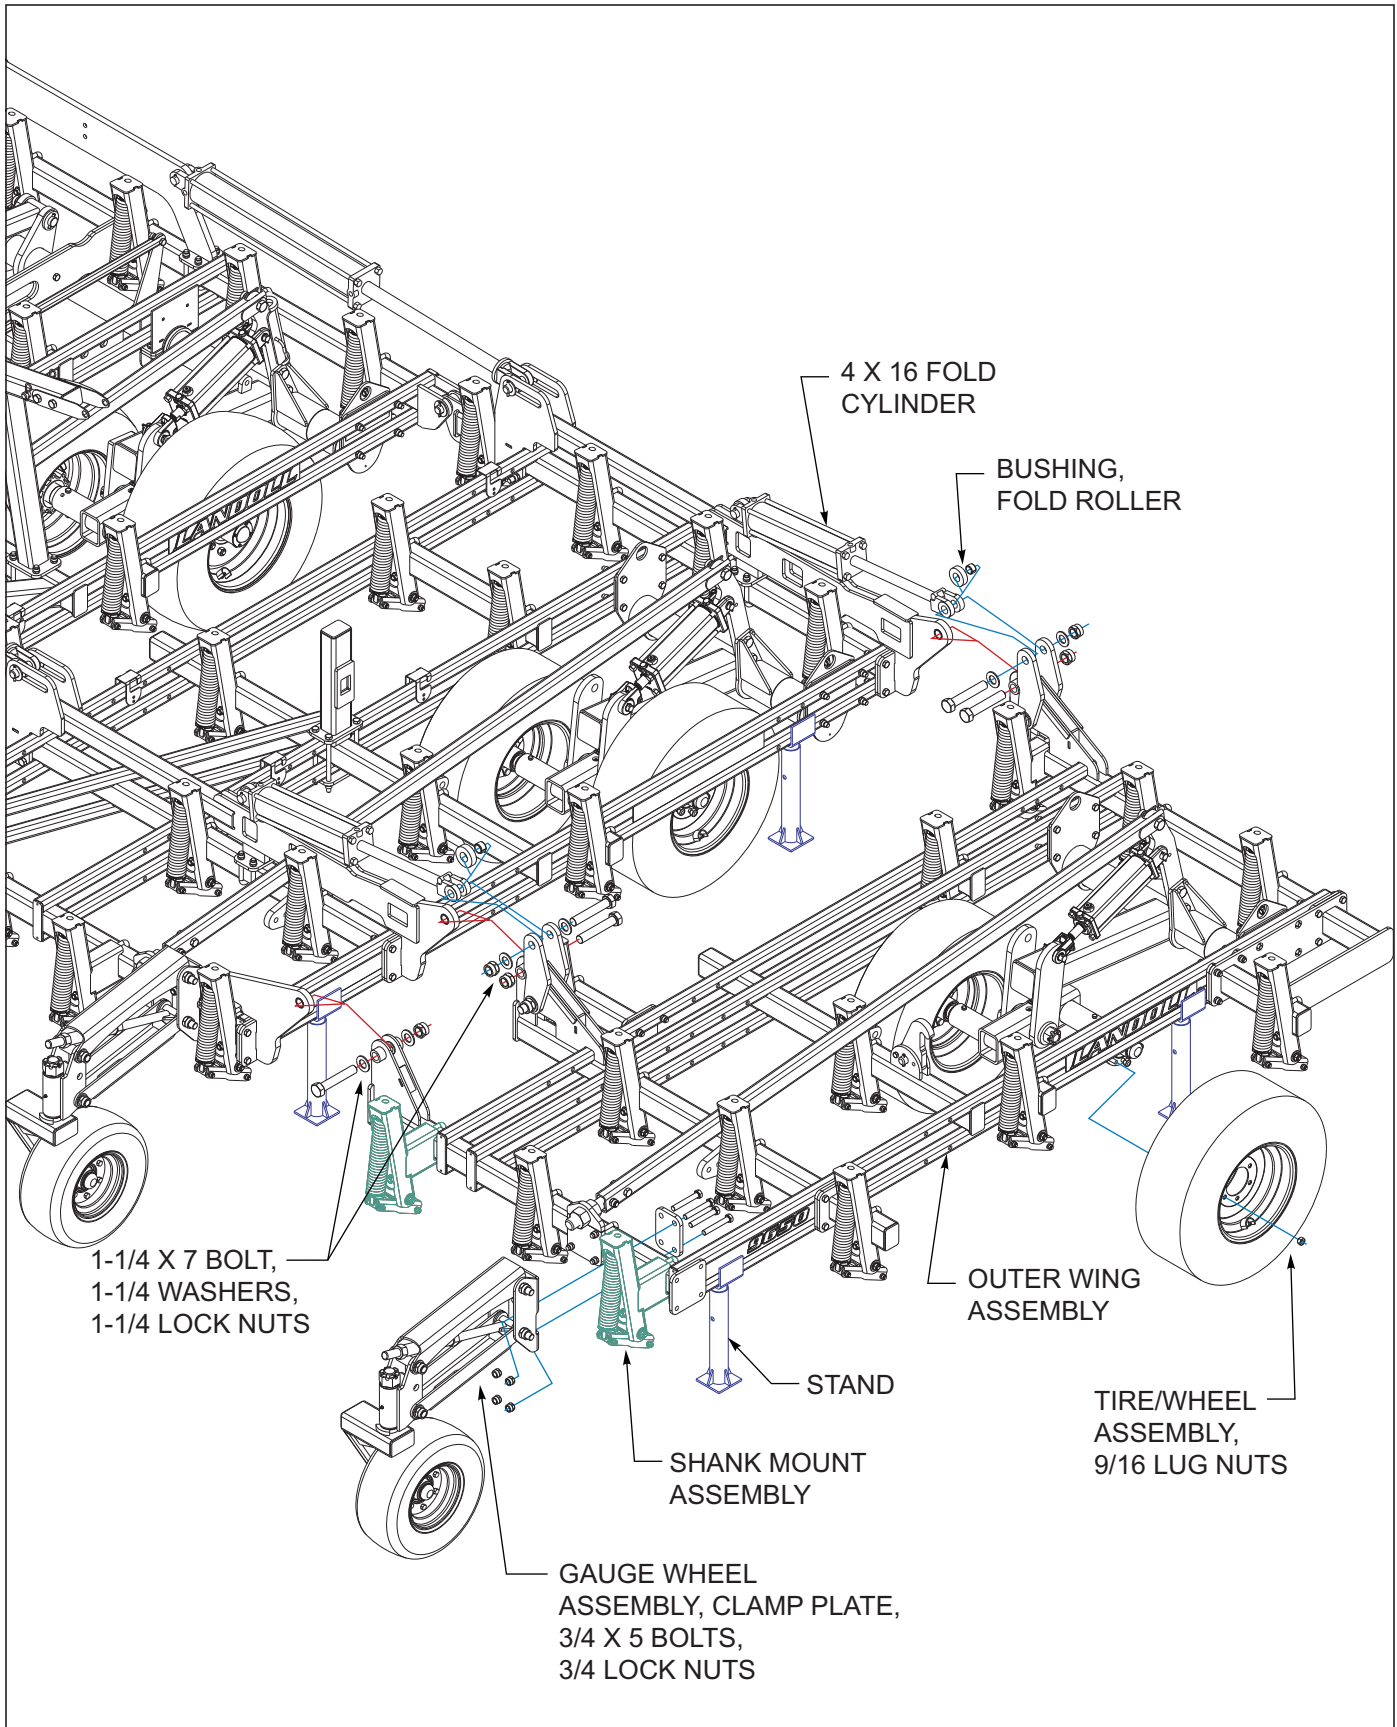
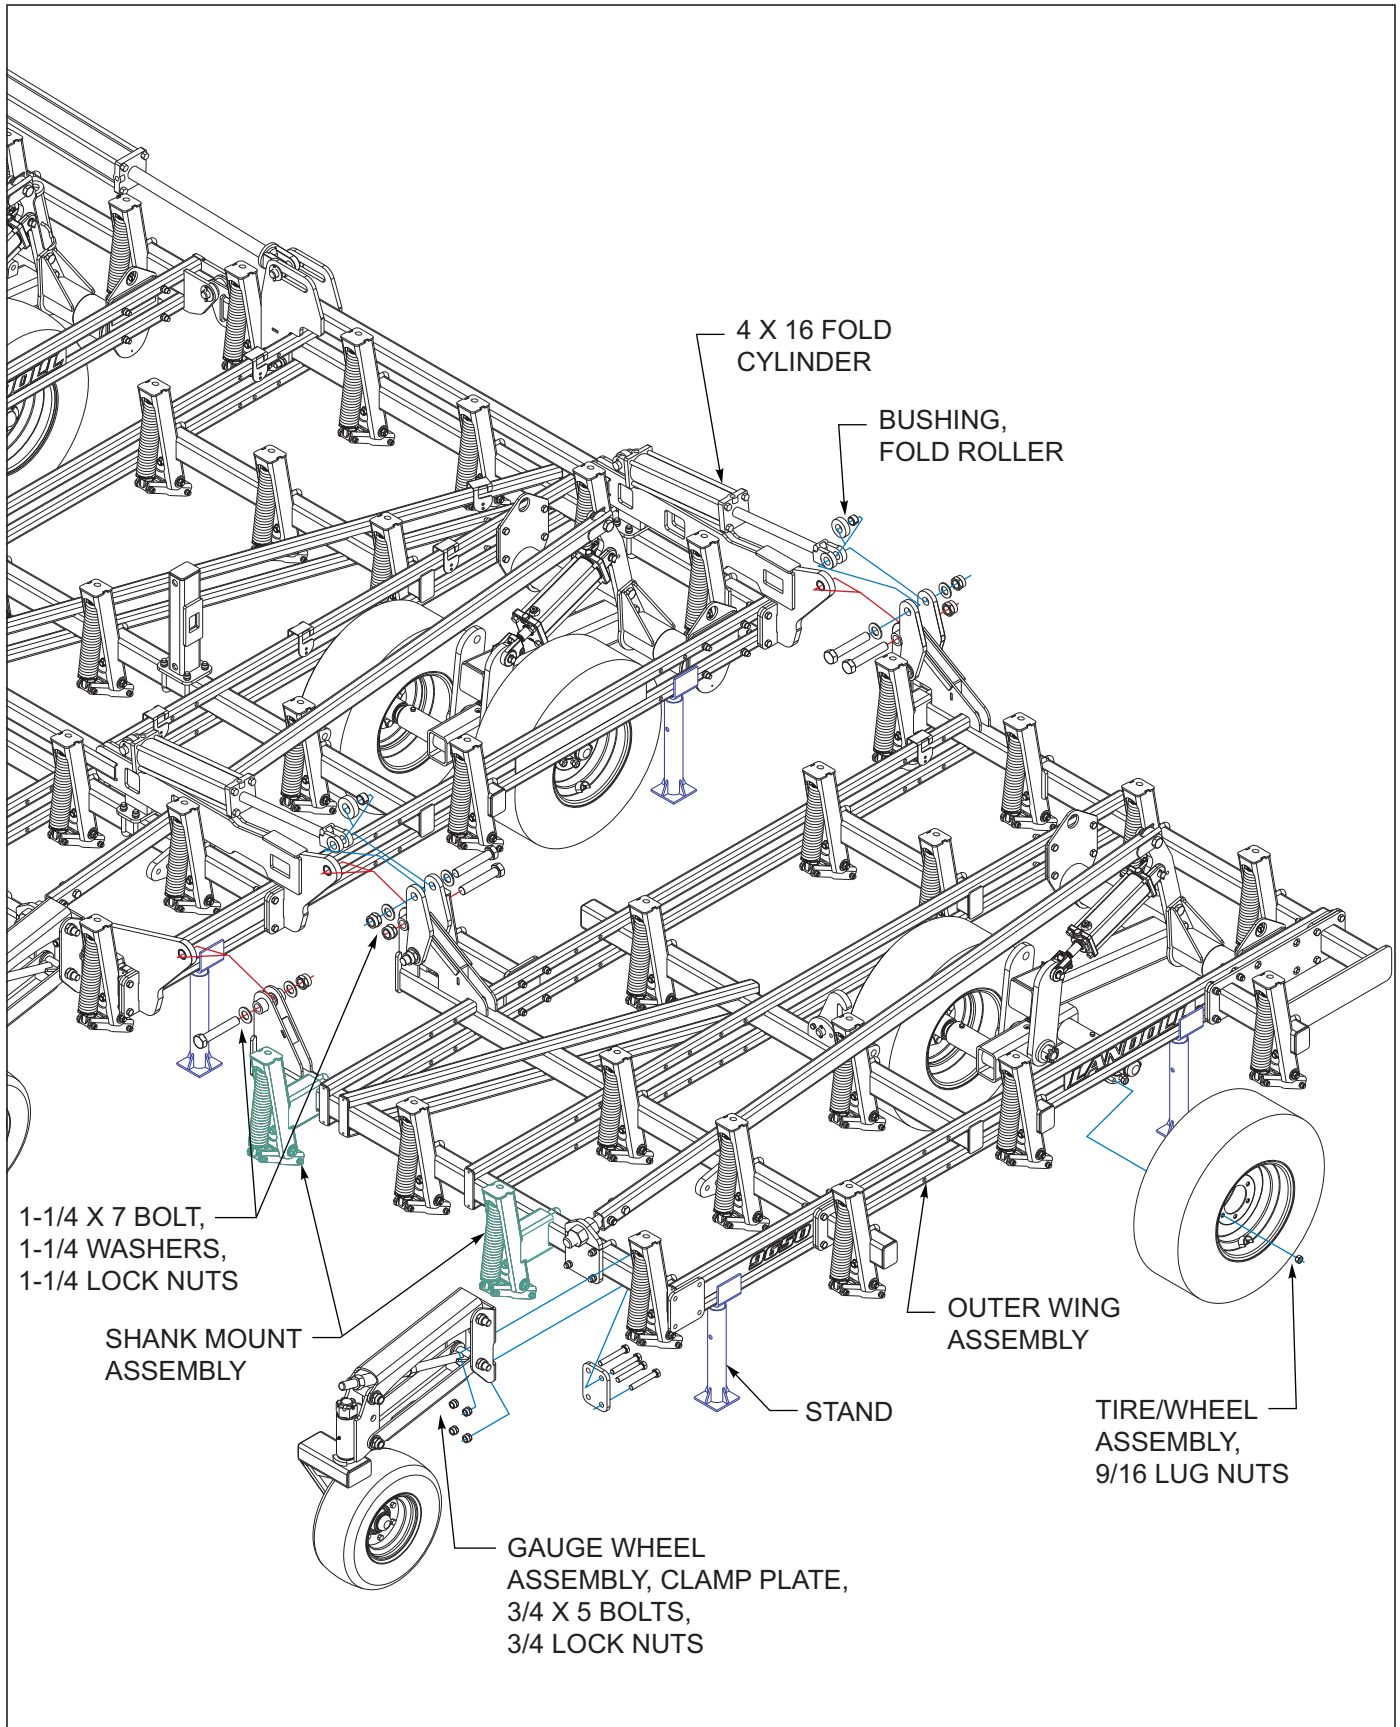

Figure 3-6: 6' Outer Wing Assembly 9650-38'-42'
Figure 3-7: 8' Outer Wing Assembly 9650-46'-50'
1. Attach outer wing frames to inner wing frame using 1-1/4 x 7 bolt, 1-1/4 washers and 1-1/4 lock nut, 9650-38'-42' *See Figure 3-6* or 9650-46'-50' *See Figure 3-7*.
The direction of bolts as shown See Figure 3-6 and See Figure 3-7. Use flat washers on front hinge bolt, but not the middle or rear hinge bolts.
1. Attach the gauge wheel assembly to outer wing assembly with clamp plate, 3/4 x 5 bolts and 3/4 lock nuts, 9650-38'-42' *See Figure 3-6* or 9650-46'-50' *See Figure 3-7*.